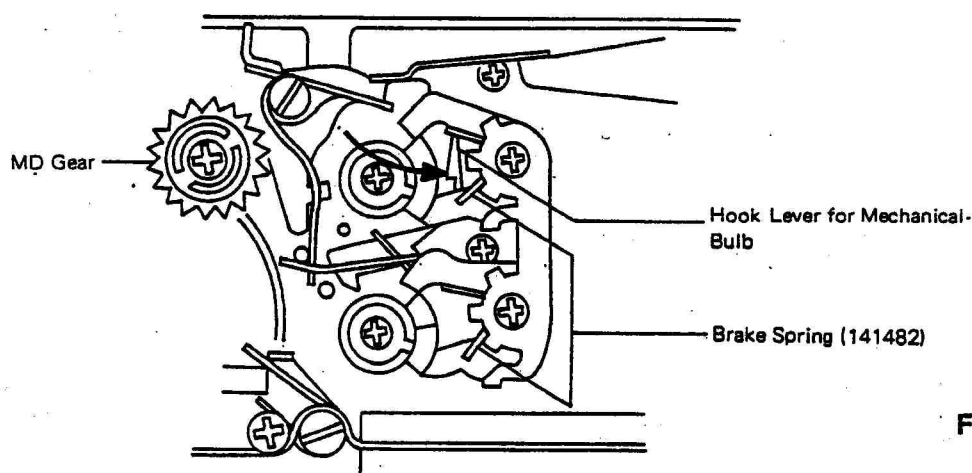

Fig. 14
- c) Push the Hook Lever for Mechanical-bulb with a needle or similar in the direction of the arrow for coupling with the inside shutter mechanism lever correctly. The Mount Base ass'y will move up when pushing the Hook Lever for Mechanical-bulb, and come down as the mechanism levers are engaged correctly. (fig. 14)